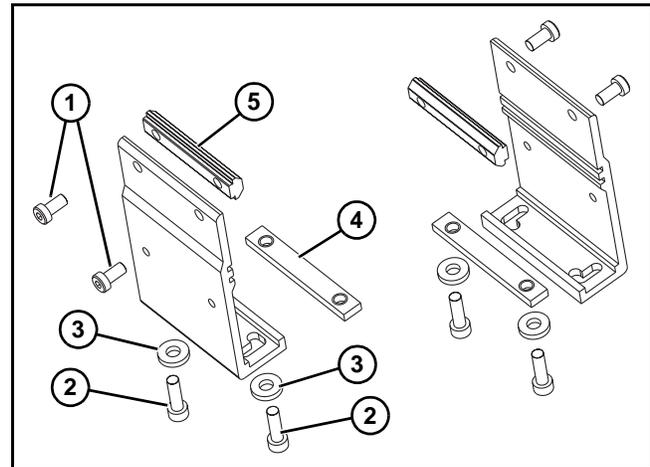
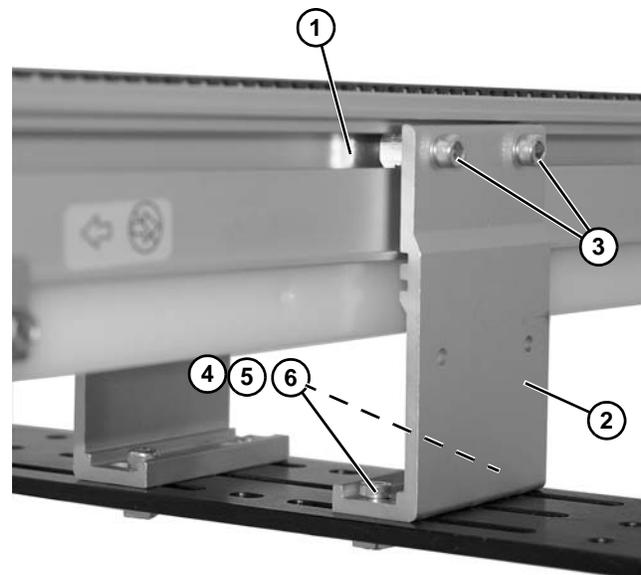

Figure 8
Figure 9
1. Locate brackets. Exploded view shown in Figure 8.
2. Remove screws (Figure 8, item 1 & 2), washers (Figure 8, item 3), nutbars (Figure 8, item 4) and T-bars (Figure 8, item 5) from brackets.
3. Insert T-bars (Figure 8, item 5) into conveyor side slots (Figure 9, item 1). Fasten brackets (Figure 9, item 2) to conveyor with mounting screws (Figure 9, item 3).
4. Fasten brackets to support stand with mounting screws (Figure 9, item 4), washers (Figure 9, item 5) and nuts (Figure 9, item 6).
5. Tighten screws (Figure 9, item 3 & 4) to 60 in-lb (7 Nm).